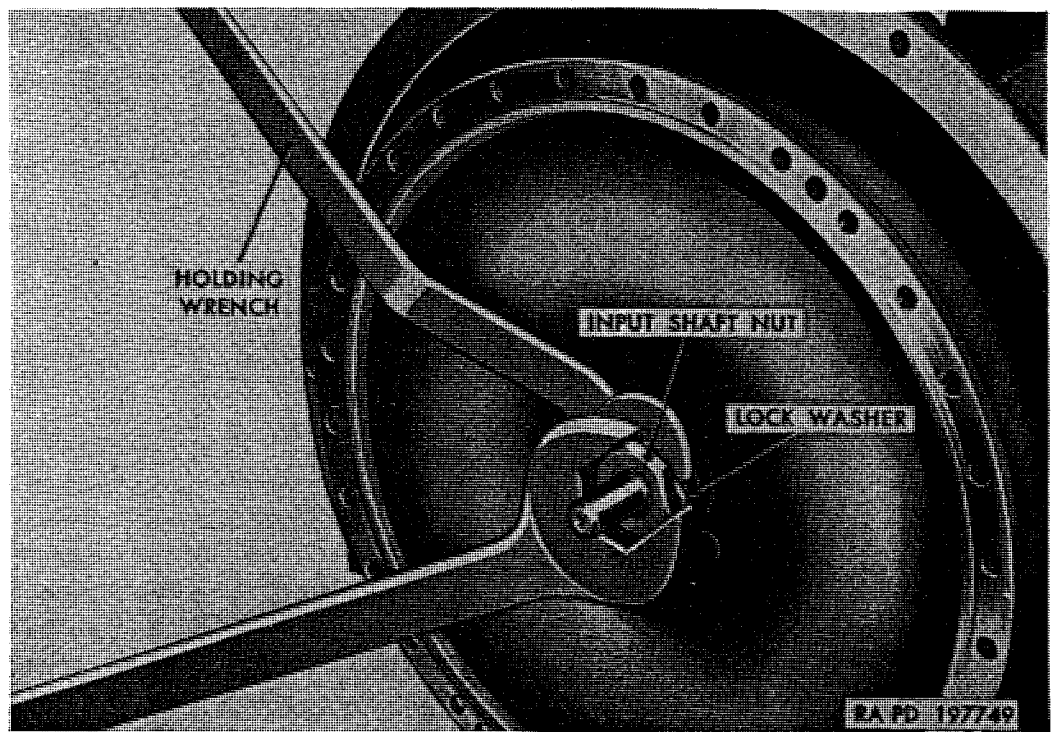

Figure 209. Using holding wrench B7950256 to hold fluid coupling.
(6) Place new lockwasher over transmission input shaft against driven torus member; then install $\frac{7}{8}$ -16 input shaft nut.
(7) With torus holding wrench B7950256 (fig. 209), hold torus and tighten input shaft nut to 50 to 60 pound-feet torque.
(8) Bend lug of lockwasher against face of nut to hold nut tight; then install pilot bearing spacer on end of input shaft.